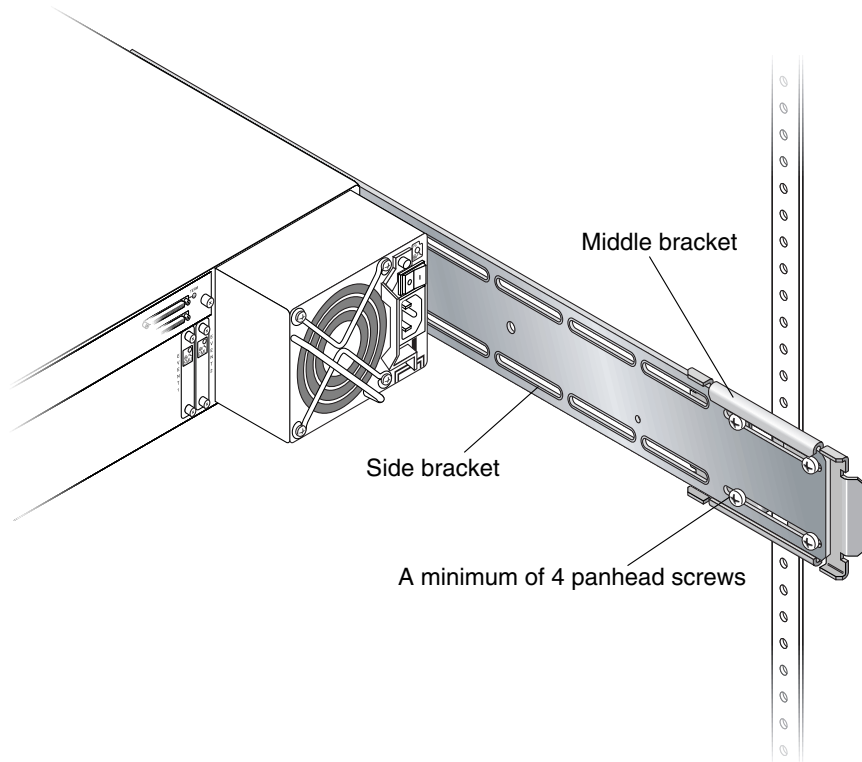

FIGURE 2-12 Middle and Side Brackets Assembled
- a. Insert a minimum of two #10-32 x 3/8-inch panhead screws through the side bracket slots and through the middle bracket holes. (See FIGURE 2-12).